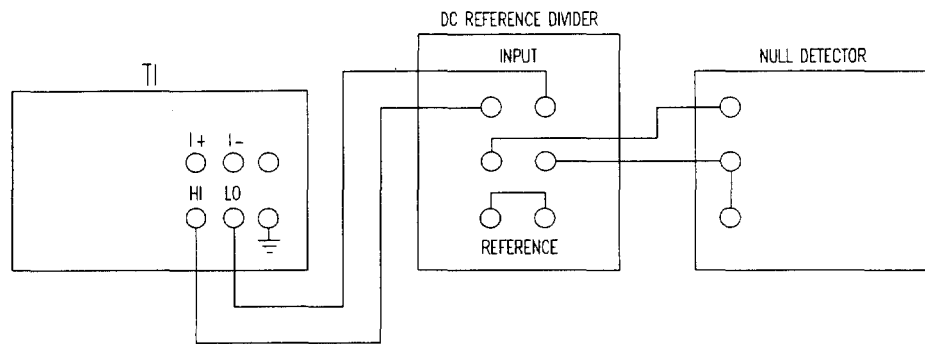

Figure 1.
4.1.1 Connect the equipment as shown in Figure 1.